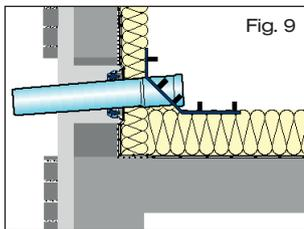

Fig. 9
Apply adequate quantities of LORO-X lubricant to the inside of the sealing element of the sliding flange and the outside of the outlet of the discharge pipe with fixed flange. Insert the discharge pipe with fixed flange into the sliding flange as far as its fitted position (Fig. 9). Close up any holes that have been made in the thermal insulation. Apply adequate quantities of thermal insulation to the discharge pipe in the area of the wall, and fix the roof drain.
3.2 Prepare a cut-out in the plastic roof sealing sheet with the size of the outer contour of the discharge pipe with fixed flange in the region of the roof drain (Fig. 9).